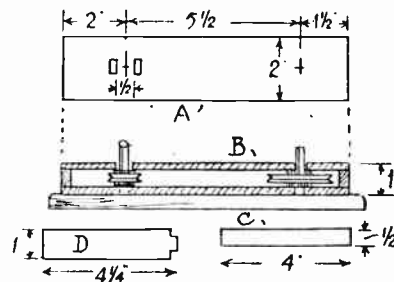

Fig. 1 Section and plan of base
Some of the parts are grouped together in Fig. 1, forming what we might call the framework of the whole. From $\frac{1}{2}$ in. wood cut two of parts (A). Run a pencil line along the middle, and on this, at the points indicated, bore holes $\frac{1}{4}$ in. diameter through both.